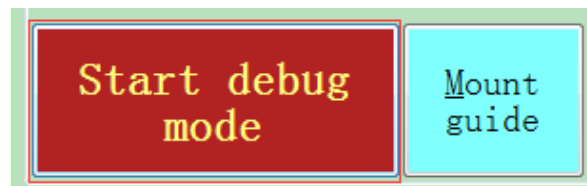

Figure 3.23: click “return to debug mode” button to return to radar debugging mode
- (1).After the setting of snapshot and connection to camera successfully, button “debugging finish / connect to camera” will be changed to “return to debugging the mode”, at this moment, the setting of the radar cannot be modified, if the camera snapshot result is not perfect, click button” return to debug mode” to return to debug mode, as shown in figure 3.23